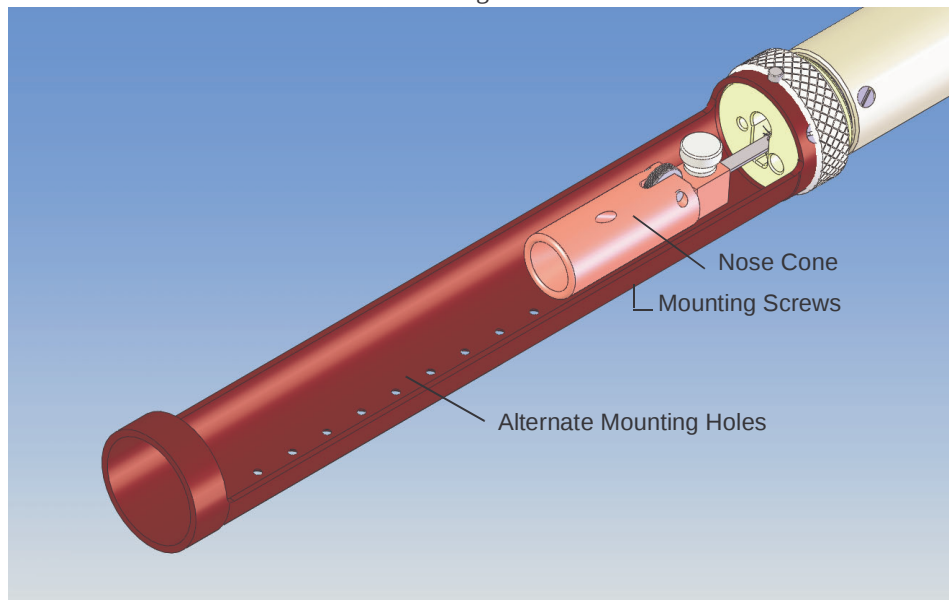

Figure 3. Alternate Mounting
9. Animals can be located either headfirst or tailfirst, with the default being headfirst (**Figure 3**).